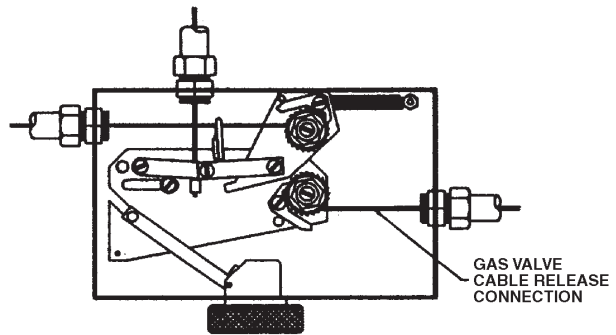

Figure 4-19. Gas Valve Line Termination.
The gas valve line can now be put into a set position by applying tension to the gas valve line. This is accomplished by using a 1" socket on the gas valve ratchet wheel. The ratchet wheel will be ratcheted in a clockwise direction until the gas valve is fully open. See Instruction Sheet, Part No. 550571, included in gas valve shipping assembly, for detailed information. Secure the gas valve cover plate to the gas valve box with the four (4) screws provided. The gas valve line is now in a set position. See **Figure 4-19**.